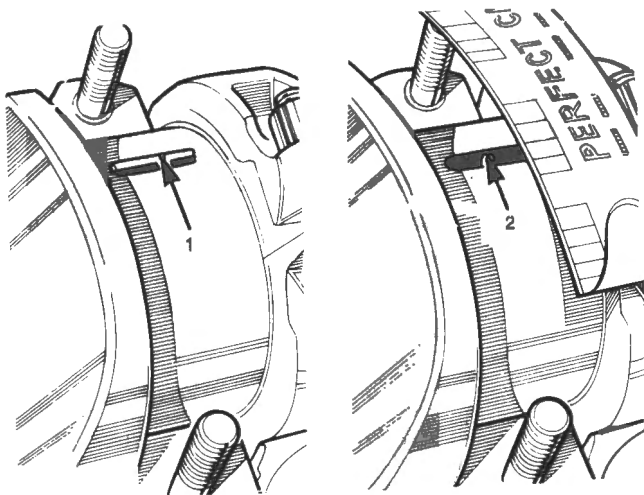

Fig. D-90
- (a) Pull the appropriate connecting rod assembly up on to the crankpin and place a length of 'Plastigauge' across the pin as shown in Fig. D-90.